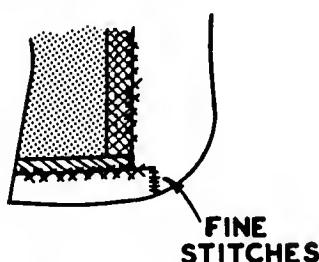

**Fig. 225.** Shrinking out the fullness.
- C. Place brown paper between the reinforcement and the hem, and press the hem against the brown paper and the reinforcement on a cheese block. Shrink out the fullness (see Chapter 8, p. 39) (Fig. 225).